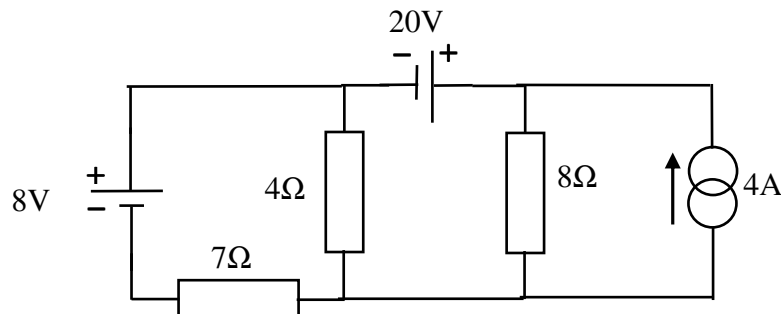

Figure 4.2
- b. A constant current source of 4A is added to the network in parallel with the 8Ω resistor, as shown in Figure 4.2. Calculate the new current through the 4Ω resistor. (4)